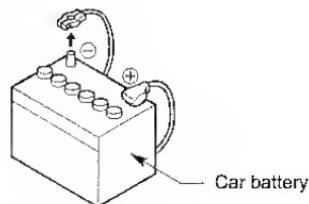

Figure 1
3. Be sure to disconnect the battery “ $-$ ” terminal before starting. This is to prevent short circuits during installation. (Figure 1)